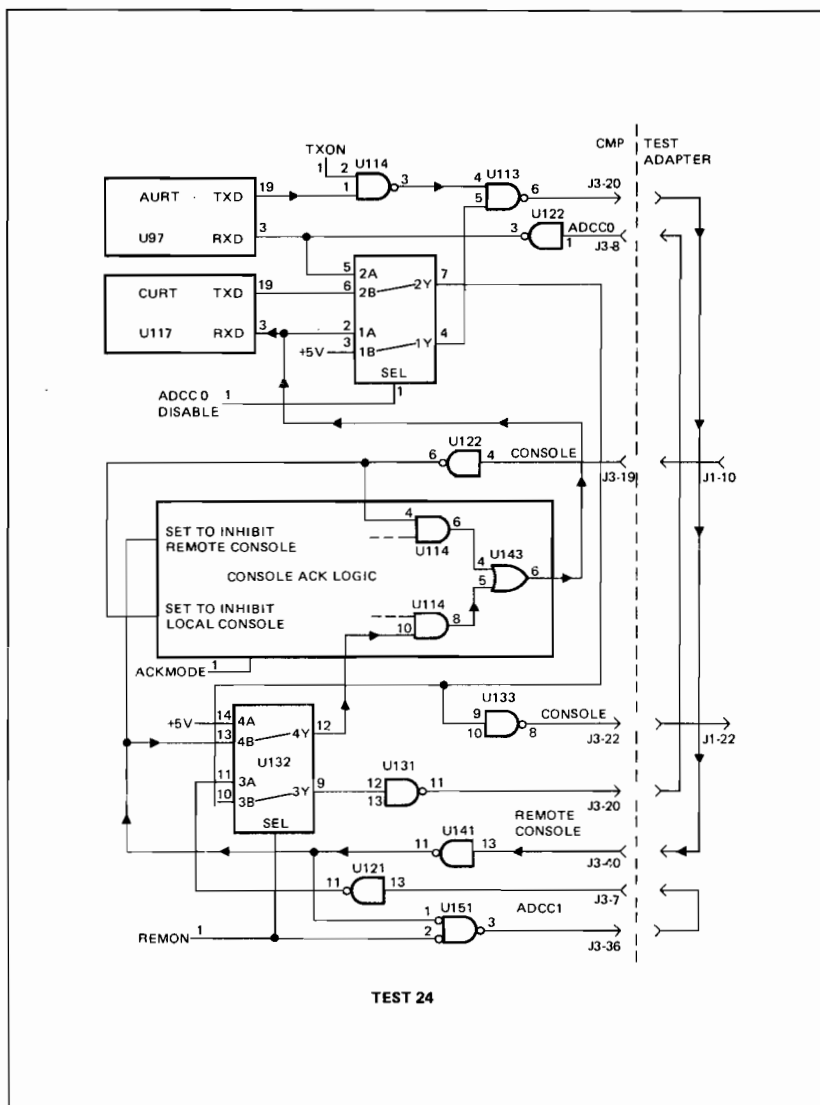

Figure 3-13. Data Comm Test Step 24
- 24 The ability of the CURT to receive Remote Console data is tested after the ACK circuitry has been set up by step 23. (See Figure 3-13.)